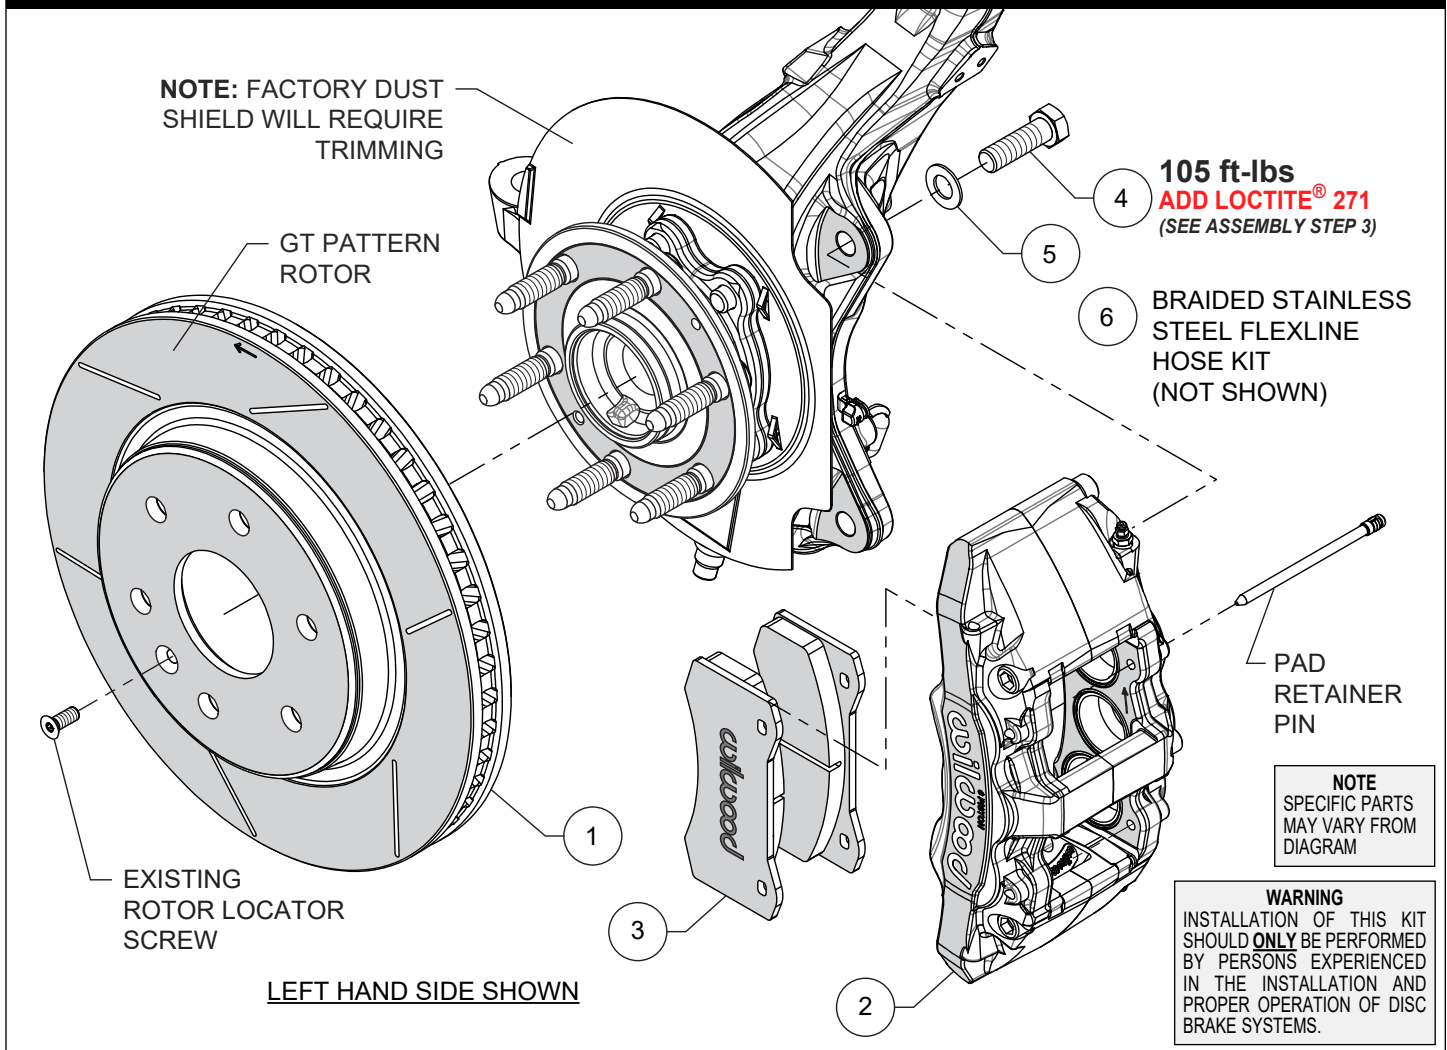

Figure 1. Typical Installation Configuration
Numbers in parenthesis refer to the parts list and Figure 1 on the preceding pages.
STEP 1 Slide the rotor (1) onto the hub. **NOTE:** The rotor must fit flush against the hub flange or excessive rotor run out may result. Install the OEM rotor locator screw to keep the rotor in place while continuing with the installation, Figure 1 and Photo 1.
STEP 2 Remove the two pad retaining pins from the caliper (2). Insert the brake pads (3) into the caliper, with the friction material facing the rotor, Photo 2. Secure the brake pads in place with the pad retaining pins, Figure 1 and Photo 3. **CAUTION:** Ensure pad retaining pins are completely engaged into caliper, Photo 4. It is recommended to use a small flat punch and hammer to tap the pins in until they are fully seated.
STEP 3 Mount the caliper (2) onto the OEM caliper mounting bosses using bolts (4) and washers (5), as shown in Figure 1 and Photo 5. Apply red Loctite® 271 to bolt threads, and torque to value shown in Figure 1.